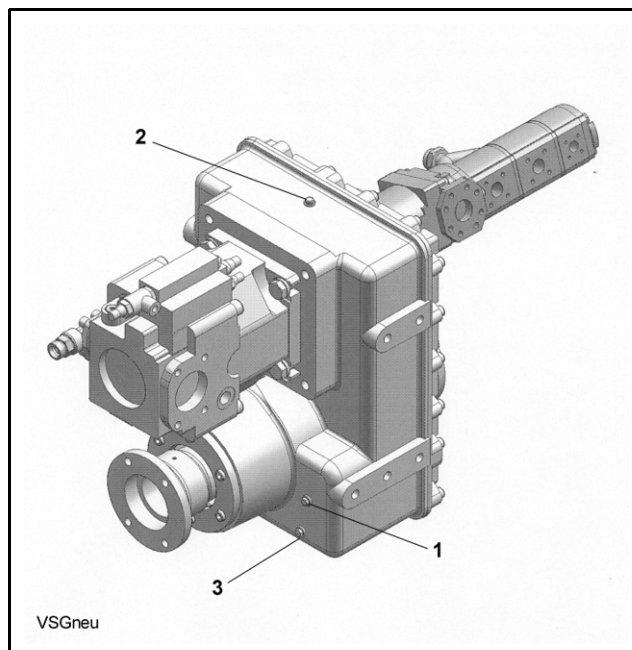

Fig. 308 Distribution manual transmission gear
- Unscrew the inspection plug (1) (**Fig. 308**).
- If necessary, top up oil through the filling and breather screw (2) until it overflows at (1).
- Wash screw (2) with fuel and blow out with compressed air.
- Unscrew drain plug (3); close after emptying.